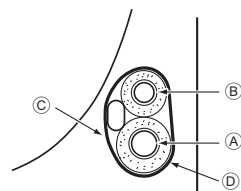

Fig. 4-4
- (A) Site-side refrigerant piping
- (B) Unit side refrigerant piping
4.4.1. Storing in the piping space of the unit (Fig. 4-4)